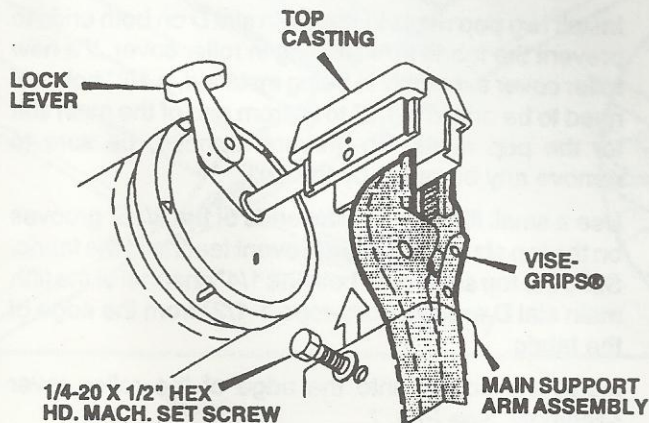

FIG. 4
1. Clamp a Vise Grip® tightly on the top casting. Remove the 1/4-20 hex head machine screw from the top casting. See FIG. 4.